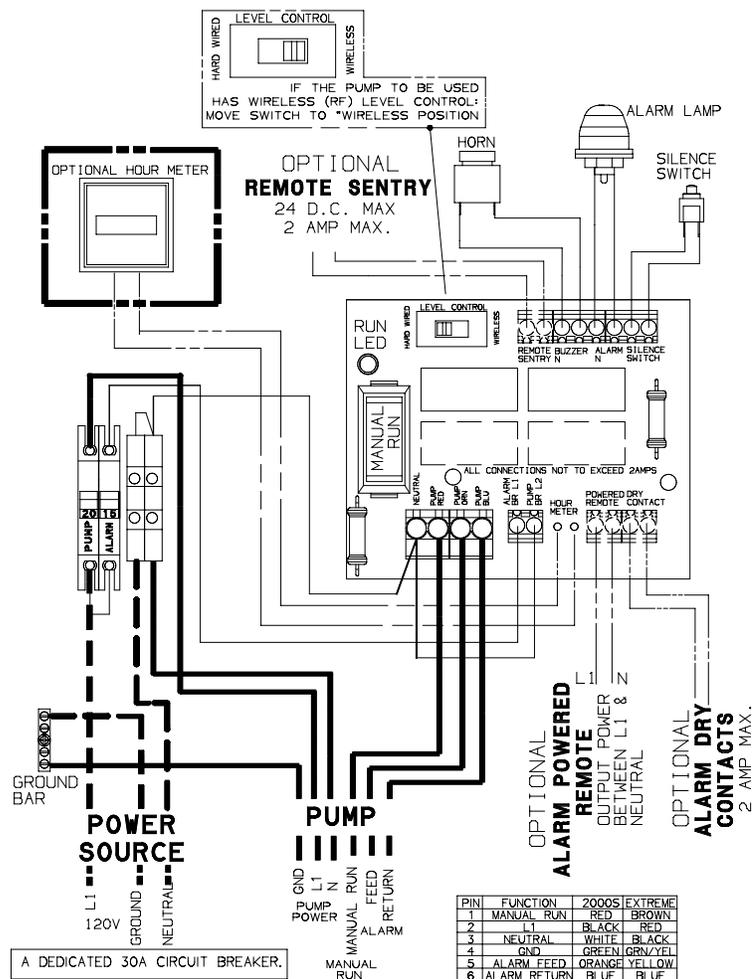

Figure 3 – 120V Simplex
Wiring of supply panel and alarm panel shall be per figures 3, 4 and 5, alarm panel wiring diagrams and local codes. A dedicated 30-amp breaker with ground and separate neutral is required before all alarm panels; a dedicated 40 amp breaker is required before a 120V duplex alarm panel; and
e. Run the cable underground, in a trench or tunnel, to the location of the E/One panel. Leave a 6- to 12-inch loop of cable at each end to allow for shifting and settling. Connections made at the panel are shown in the panel wiring diagram (Figs. 3, 4 and 5).